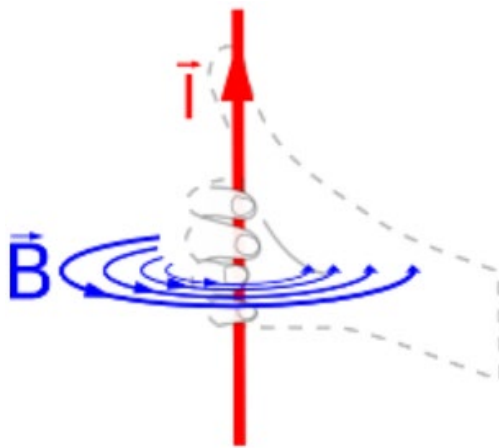

Figure 1. Showing how the right-hand rule is used to find direction of current and orientation of magnetic field. Taken from a website called Physics for kids
The right-hand rule is used to tell the direction of current and orientation of a magnetic field when a current (I) is flowing through a wire. The magnetic field (B) rotates around the wire and the direction of the current determines the direction of the magnetic field. As shown in figure 1
(c) Assume a mobile robot is mapping an indoor environment shown in Figure 1. The objects in the environment are labelled in the figure. The environment is discretised into a grid of size 5×5 , with each cell labelled as Cell(x,y), where x and y represent the column and row numbers of the cell as shown in the figure. The robot has eight on-board sensors to sense any occupancy in the eight neighbouring cells around it or any walls. The blue triangles represent the range sensing with on-board sensors. Also, assume the robot can move to any of the unoccupied neighbouring cells in a single movement. Describe how the algorithm you described in subquestion (b) will progress while the robot maps the full environment, starting from the given initial position.